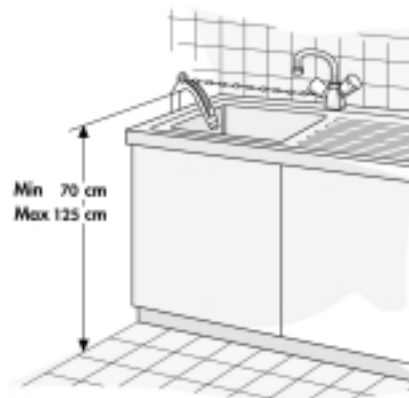

Fig. 2
3. Fit the drain hose either to the siphon or hook it over the edge of a sink or bath tub with the "U" bend (Fig. 2).